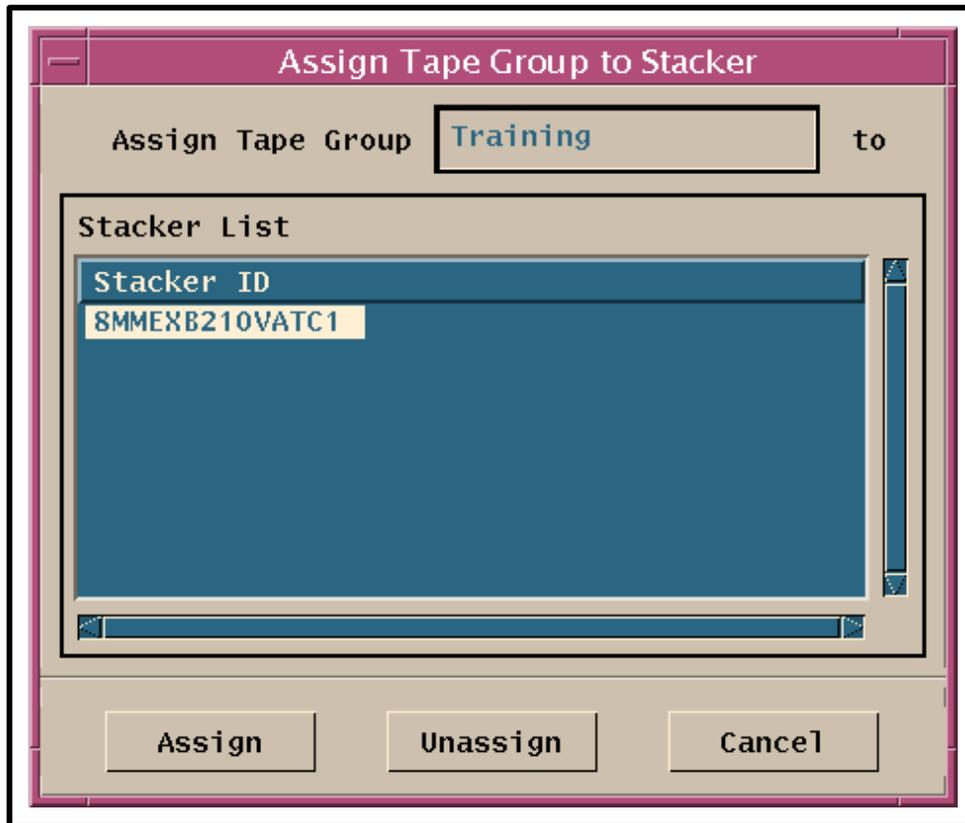

Figure 16. Assign Tape Group to Stacker Window (Storage Management Control GUI)
- The **Assign Tape Group to Stacker** window (Figure 16) is displayed.